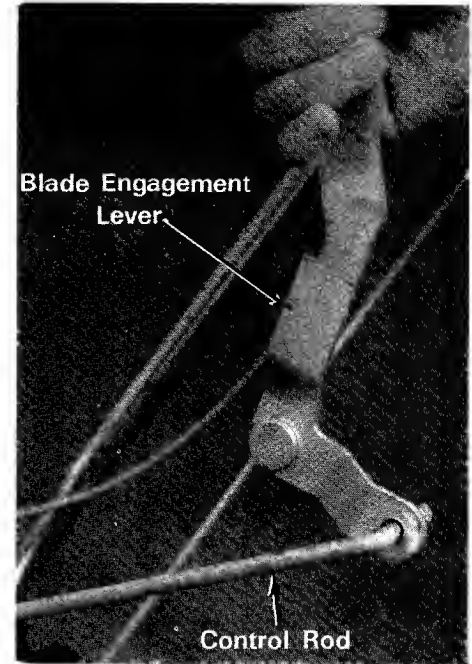

Figure 4
- 5 Attach the Blade Engagement Lever to the Control Rod as it is shown in figure 4.
- 6 Assemble the control lever to the handle panel with the flat washer and locknut. (See figure 4.)